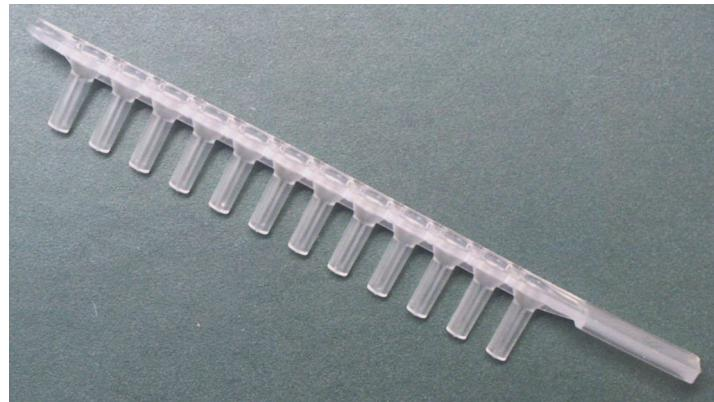

Fig. 6.4 Tip comb specially designed for the KingFisher
- The tip comb(s) always has (have) to be in its (their) slot(s) and fully inserted (*Fig. 6.3*). The instrument also functions with either one microplate or one to twelve microstrips depending on the amount of samples. At least one tip comb (*Fig. 6.4*) always has to be inserted into either of the narrow slots meant for the tip comb.